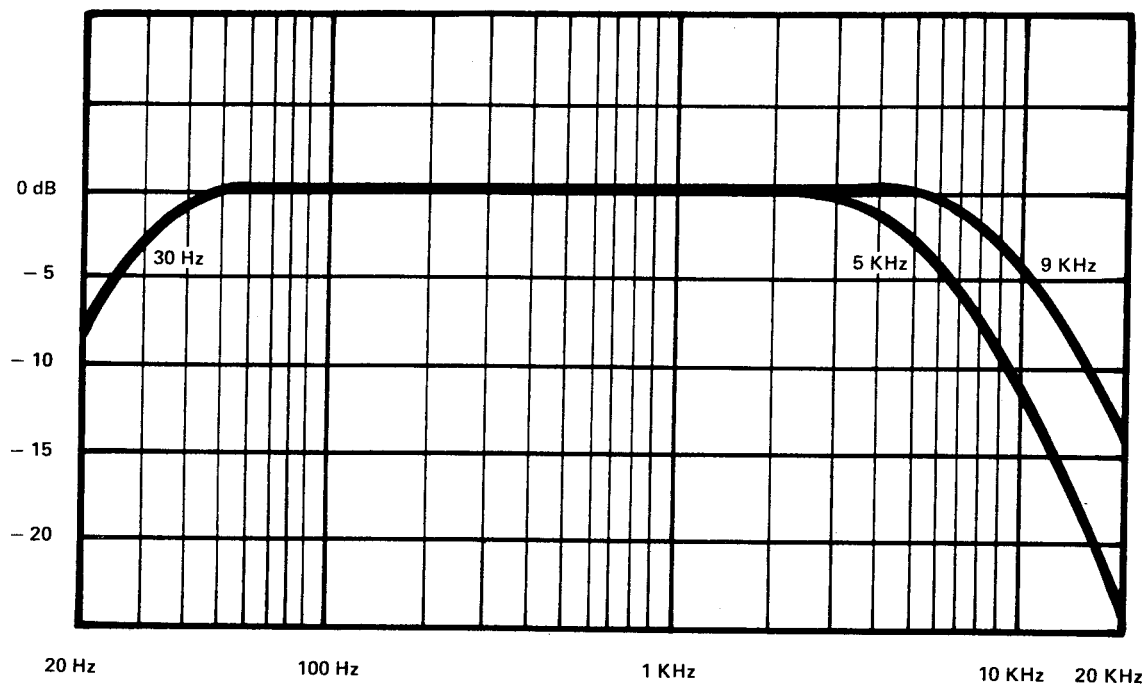

Figure 2-4 Active Filter Network Characteristics
- (1) Connect oscillator to left channel AUX INPUT Jack. Insert a shorting plug into right channel AUX INPUT Jack. Monitor signal at PREAMP OUTPUT Jack with AC VTVM.
- (2) Set oscillator frequency to 20 Hz. Set oscillator level for 0 dB, 3 V rms output as indicated on the VTVM.
- (3) Observe the output of the undriven channel on the VTVM. Output should be at least 40 dB below the 0 dB reference level indicating a 40 dB left - to - right channel separation.
- (4) Repeat test on right channel.
K. FILTERS (Figure 2-4)
- (1) Connect oscillator to AUX INPUT Jack. Depress AUX Selector Pushswitch. Connect AC VTVM to PREAMP OUTPUT Jack.
- (2) To establish a reference level, set oscillator frequency to 1 kHz, 0 dB as measured on the VTVM.
- (3) Depress 9 kHz FILTER Switch. With oscillator switched to 9 kHz input, output level should drop 3 dB (± 1.25 dB). Depress and release FILTER switch.
- (4) Depress 5 kHz FILTER Switch. With oscillator switched to 5 kHz, output should drop 3 dB (± 1.25 dB). Depress and release FILTER Switch.
- (5) Depress 30 Hz FILTER Switch. With oscillator switch set to 30 Hz, signal should drop 3 dB (± 0.75 dB). Depress and release FILTER Switch.